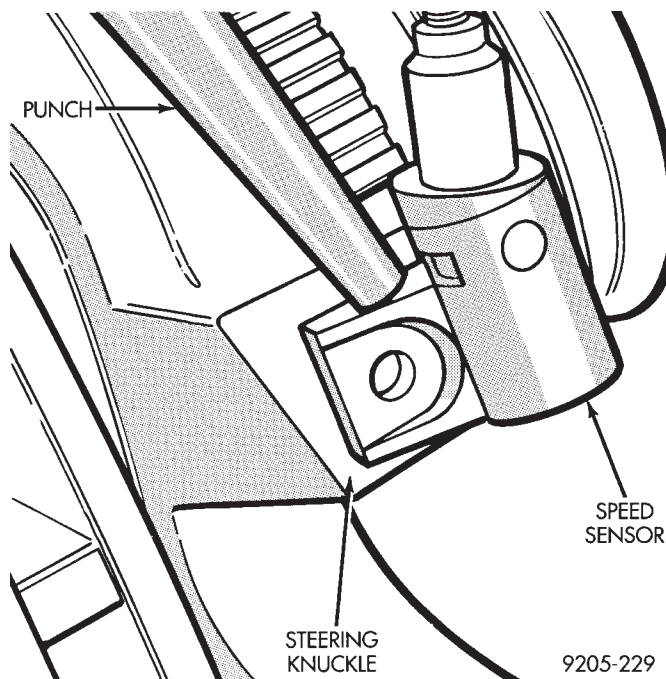

Fig. 14 Removing Speed Sensor (Typical)
- (1) Raise vehicle and remove wheel and tire assembly.
- (2) Remove sensor assembly grommet from underbody and pull harness through hole in underbody.
- (3) Unplug connector from harness.
- (4) Remove sensor grommet bracket screw from body hose bracket, just forward of trailing arm bushing.
- (5) Remove sensor assembly clip, located on the inboard side of trailing arm.
- (6) Remove sensor wire fastener from rear brake hose bracket.
- (7) Remove outboard sensor assembly retainer nut.
- (8) Remove sensor head screw.
- (9) Carefully, remove sensor head from adapter assembly. If the sensor has seized, due to corrosion, DO NOT USE PLIERS ON SENSOR HEAD. Use a hammer and a punch (Fig. 14) and tap edge of sensor ear, rocking the sensor side to side until free.